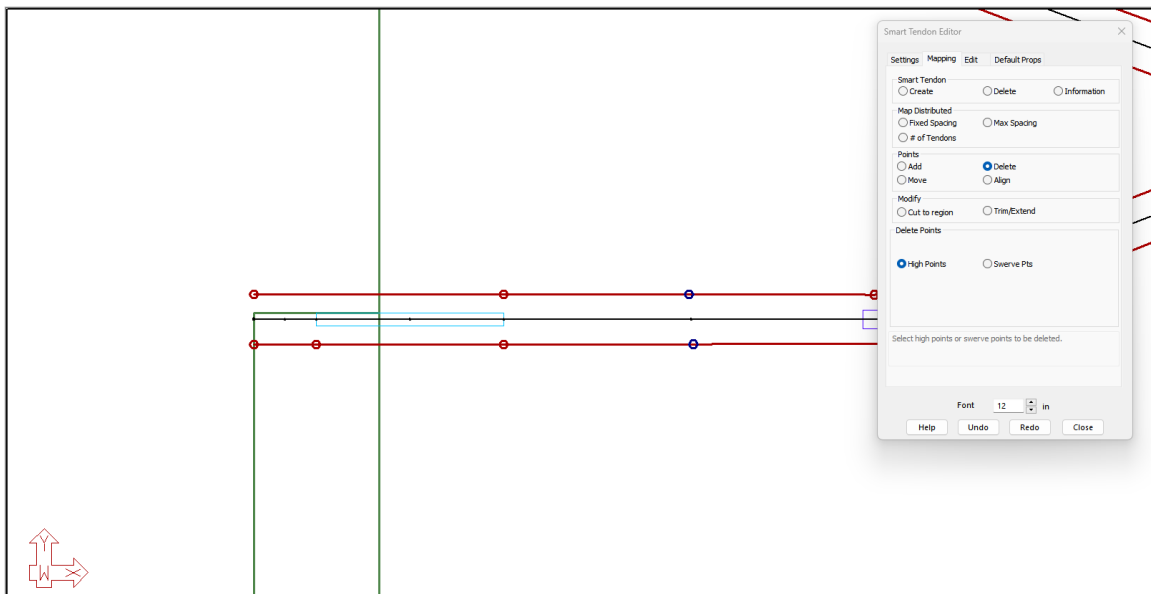

FIGURE 9-45
- Click to finish the construction line above the leftmost span of the top tendon to delete the high point. Now your screen will look as shown in **FIGURE 9-45**.